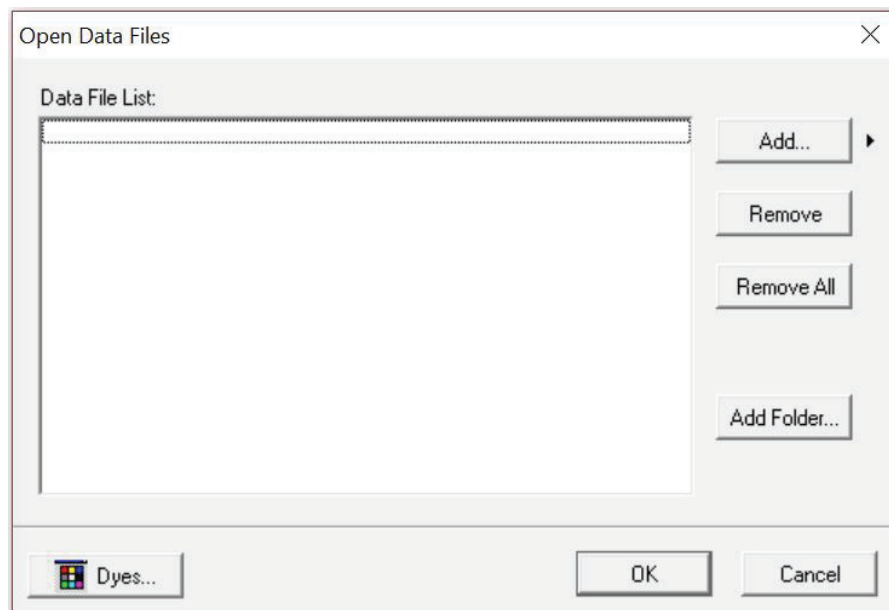

Figure 28. The GMHID-Spectrum Data File List.
4. Select **Open**, and the selected files will appear in the Data File List (Figure 28).